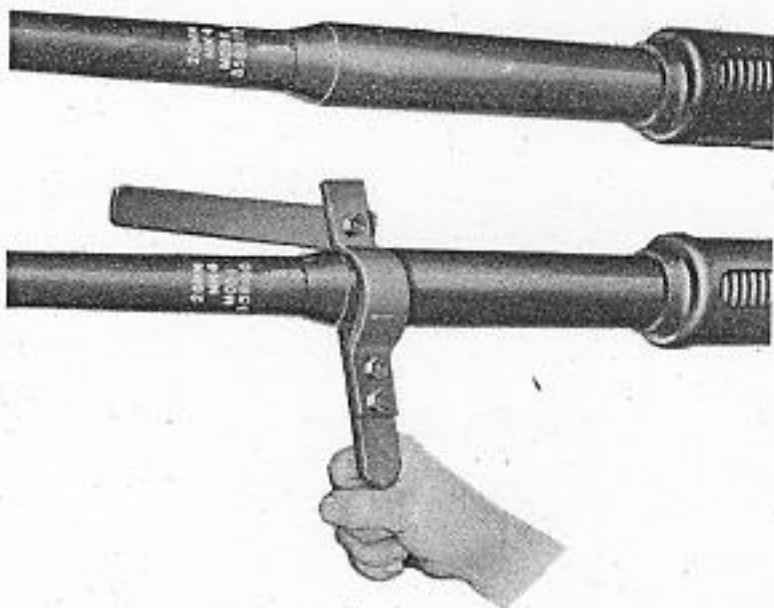

Figure 48. Rotating Left-Hand Barrel.
6. Rotate Left-Hand Barrel. Insert the inner end of the fixed handle of the barrel wrench in the outboard barrel slot as shown in Fig. 48, with the wrench center section over the barrel. Lift upward on the fixed handle, rotating the